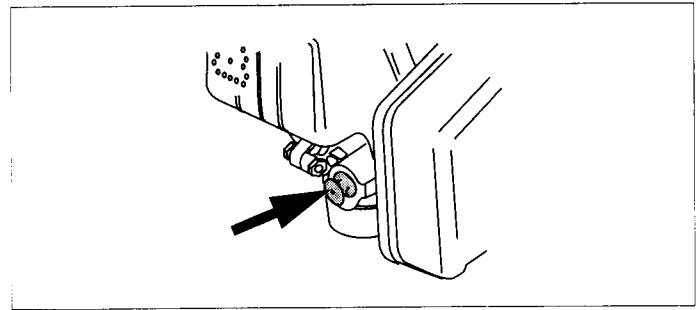

Figure 15. Engine Primer Bulb
- When starting a cold engine, push primer bulb firmly with your thumb 3 times, allowing primer bulb to return completely to original position between pushes. See Figure 15.